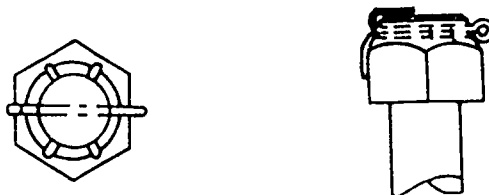

Figure 1. Cotter Pin Installation.
B. Refer to figure 1 for correct installation of the pin and perform the following steps. Use Section 16 of TO 1-1A-8 for additional information.
4. With the side cutters, bend the long side of the cotter pin straight up. Cut it off so that it resembles the pin shown in figure 1. CAUTION: Hold your free hand over the nut while cutting the pin so that the snapped end won't fly up and strike you in the eye.
6. Bend the other side of the cotter pin straight down. Cut it off so that it looks like the pin in figure 1. Tap with the side cutters until it lies flat against the nut.